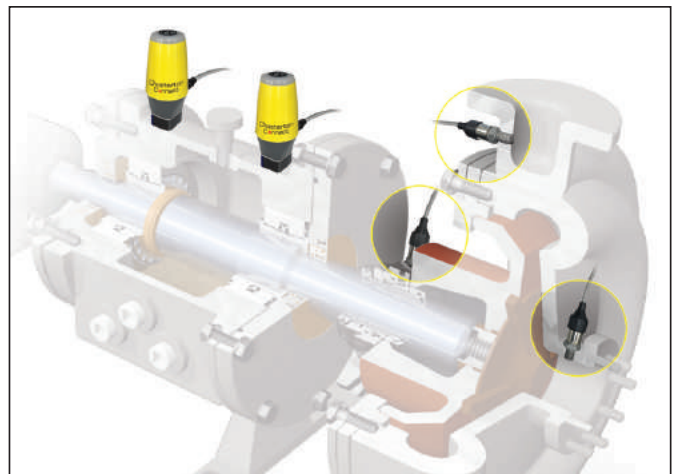

Figure 4
3. The base of the unit is magnetic. Install the unit on the surface where vibration and surface temperature will be measured*** (see figure 4 for preferred sensor location on pumps). Take care in selecting a safe stationary location to mount the unit. Ensure the operating temperatures do not exceed the rated temperature of the body 85°C (185°F).